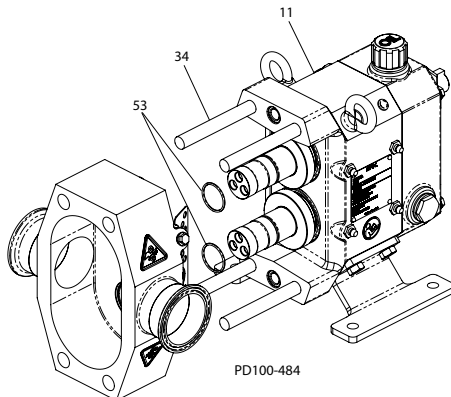

Figure 33 - Pump Body Removal
1. Using a mallet, tap the body forward until the dowels are free of the gear case (Figure 33, item 11).
2. Carefully slide the body off of the studs (item 34) to prevent damaging the mechanical seal components.
4. Remove and inspect the rotor hub o-rings (item 53).